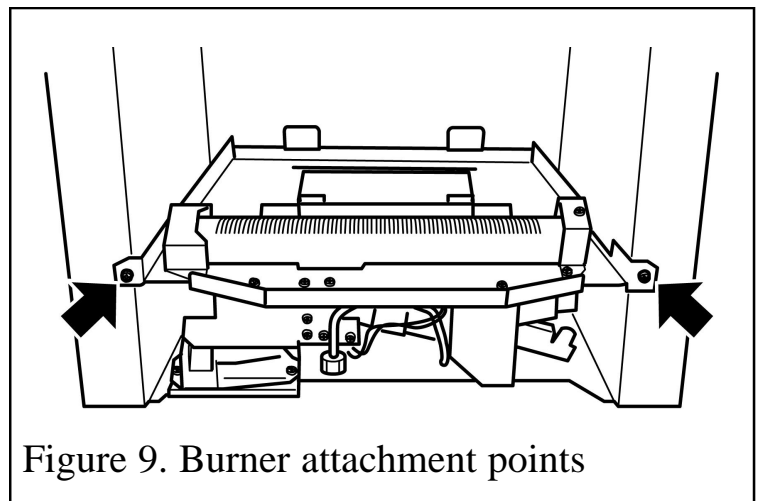

Figure 9. Burner attachment points
*1.* Detach the burner unit from the convection box by removing two screws (See figure 9). Lift the burner unit clear.